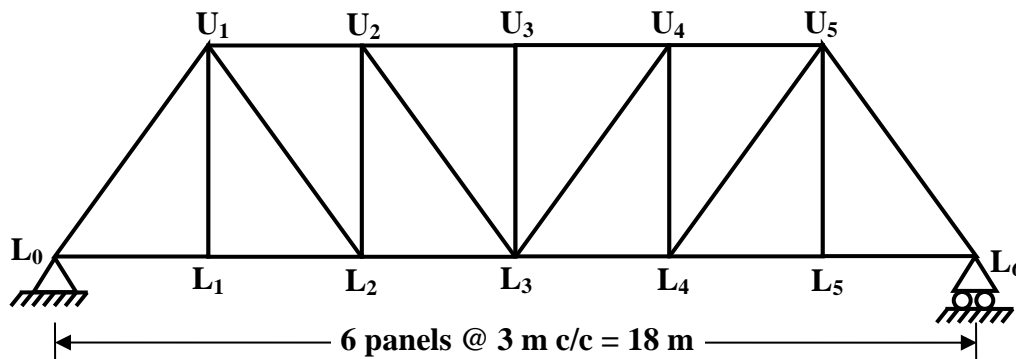

Fig. 1
5. Develop influence lines for forces in members L_2L_3 , U_2L_2 and U_2L_3 of the pratt truss shown in fig.1. Consider the unit load to be moving along the lower chord of the truss L_0L_6 .